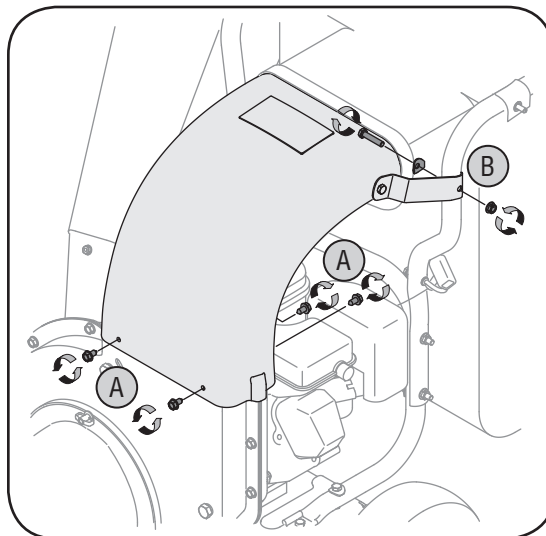

Figure 11
- b. Remove the hex bolt, saddle washer and hex nut from the top and remove the discharge chute assembly. See Figure 11.